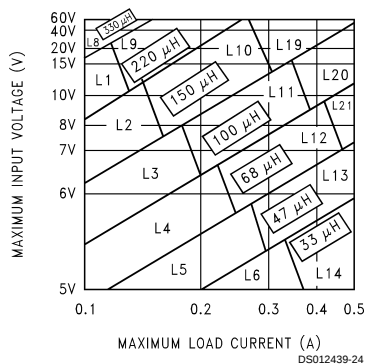
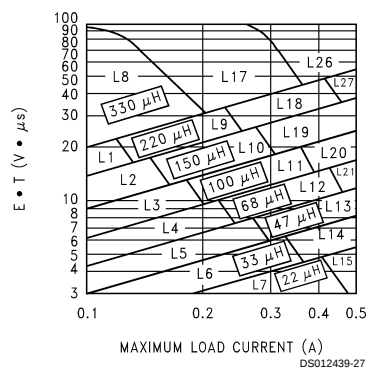
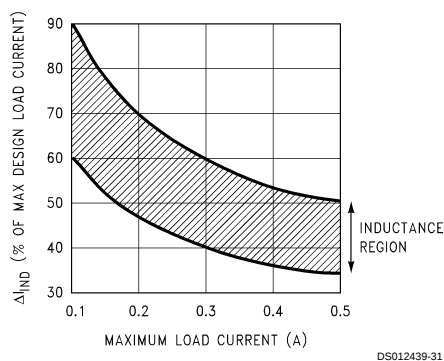

FIGURE 4. LM2594/LM2594HV-3.3
FIGURE 7. LM2594/LM2594HV-ADJ
FIGURE 16. (ΔI_{IND}) Peak-to-Peak Inductor Ripple Current (as a Percentage of the Load Current) vs Load Current
B. Use the $E \cdot T$ value from the previous formula and match it with the $E \cdot T$ number on the vertical axis of the Inductor Value Selection Guide shown in *Figure 7*.
D. From the inductor value selection guide shown in *Figure 7*, the inductance region intersected by the 35 ($V \cdot \mu s$) horizontal line and the 0.5A vertical line is 150 μH, and the inductor code is L19.
To simplify the inductor selection process, an inductor selection guide (nomograph) was designed (see Figure 4 through Figure 7). This guide assumes that the regulator is operating in the continuous mode, and selects an inductor that will allow a peak-to-peak inductor ripple current to be a certain percentage of the maximum design load current. This peak-to-peak inductor ripple current percentage is not fixed, but is allowed to change as different design load currents are selected. (See Figure 16.)